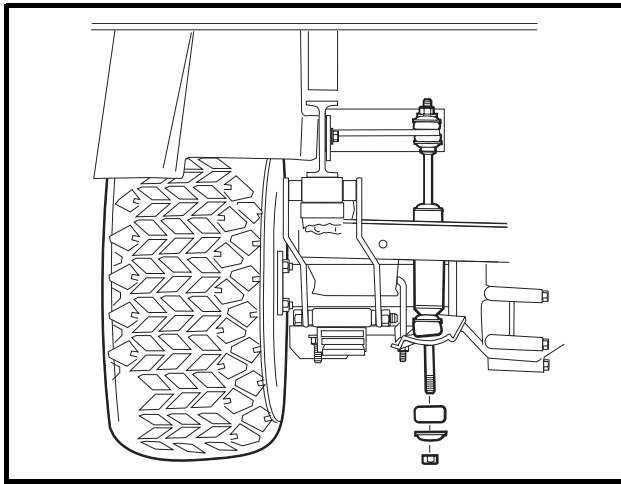

Figure 18-42 Shock Absorber
16. Position shocks in the shock mounts and install cushions, mounting washers and nuts (**Figure 18-42, Page 18-16**). Tighten nuts until cushions expand to be the same diameter as the mounting washers.